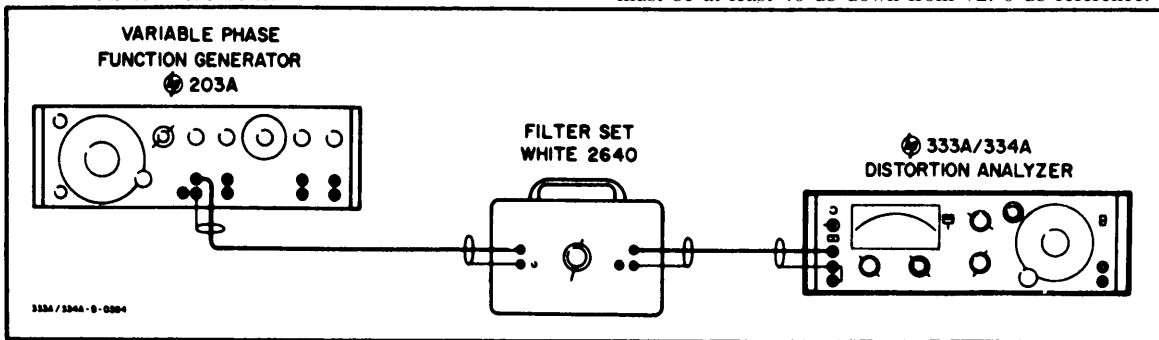

Figure 5-9. A3R16 and A3R30 Distortion Adjust Test Setup
Paragraphs 5-28 to 5-29 and Figure 5-9
a. Connect test equipment to the 333A/334A as shown in Figure 5-9.